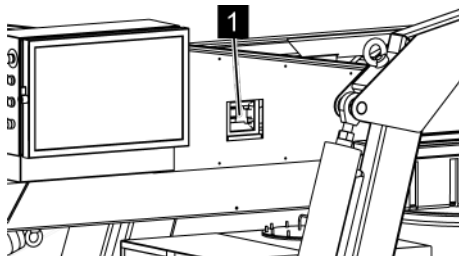

Fig. 173: Circuit breaker
2. ➤ Open cover of the FI box (Fig. 173/1).
4. ➤ Close cover of the FI box (Fig. 173/1).